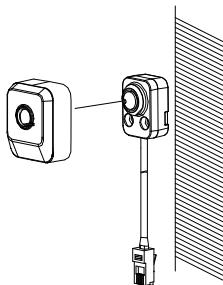

Figure 2-8 Hood the Cover
5. Shield the sensor unit with the decorative cover. As shown in Figure 2-8.